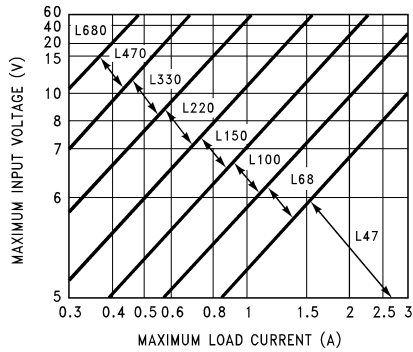
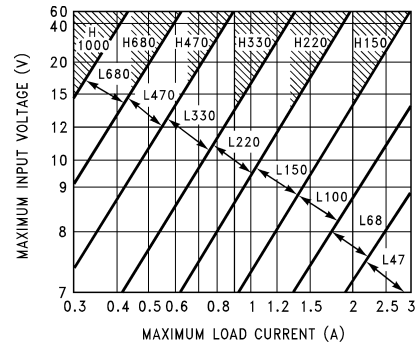
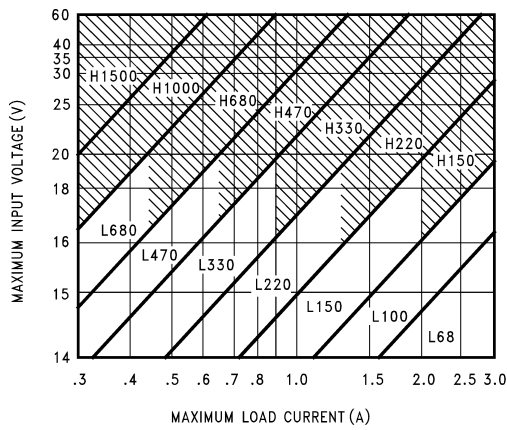
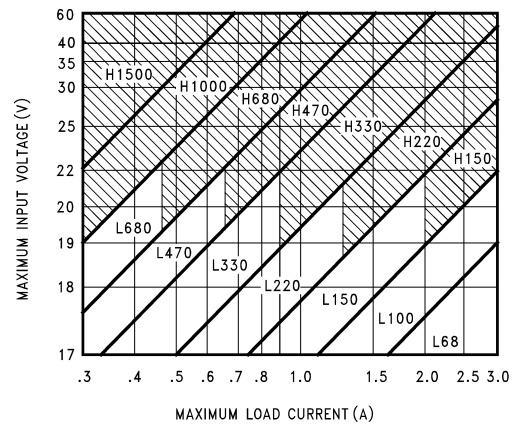

Figure 8-4. LM2576(HV)-3.3
Figure 8-5. LM2576(HV)-5.0
Figure 8-6. LM2576(HV)-12
Figure 8-7. LM2576(HV)-15
The inductor value selection guides in Figure 8-4 through Figure 8-8 are designed for buck regulator designs of the continuous inductor current type. When using inductor values shown in the inductor selection guide, the peak-to-peak inductor ripple current is approximately 20% to 30% of the maximum DC current. With relatively heavy load currents, the circuit operates in the continuous mode (inductor current always flowing), but under light load conditions, the circuit is forced to the discontinuous mode (inductor current falls to zero for a period of time). This discontinuous mode of operation is perfectly acceptable. For light loads (less than approximately 300 mA), it can be desirable to operate the regulator in the discontinuous mode, primarily because of the lower inductor values required for the discontinuous mode.
1. Select the correct Inductor value selection guide from Figure 8-4, Figure 8-5, Figure 8-6, or Figure 8-7. (Output voltages of 3.3 V, 5 V, 12 V or 15 V respectively). For other output voltages, see the design procedure for the adjustable version. Use the selection guide shown in Figure 8-5.
- Identify the inductor value from the inductor code, and select an appropriate inductor from the table shown in Figure 8-4. Part numbers are listed for three inductor manufacturers. The inductor chosen must be rated for operation at the LM2576 switching frequency (52 kHz) and for a current rating of $1.15 \times I_{LOAD}$. For additional inductor information, see Section 8.1.2. Inductor value required is 100 μH from the table in Figure 8-4. Choose AIE 415-0930, Pulse Engineering PE92108, or Renco RL2444.